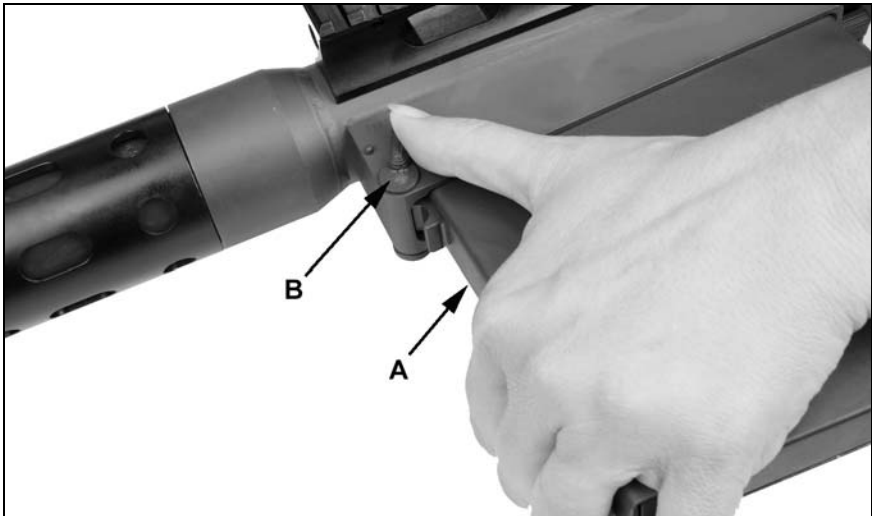

Figure 18
- 2. Remove Magazine (If Equipped)** Grasp the firearm while keeping your finger off the trigger. Place your left hand on the forward end of the magazine (A) as illustrated. Press the magazine release button (B) forward to OPEN and pull the magazine out to remove. See figure 18.